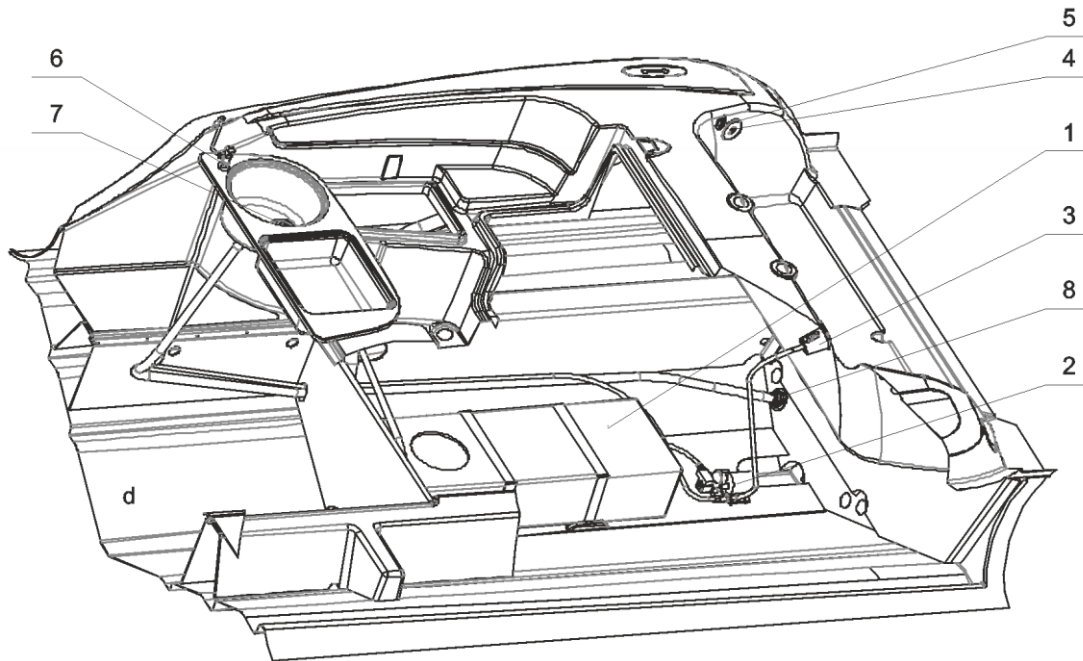

Fig. 38. Water supply system.
Water supply system (see fig. 38 on the previous page).
- To fill up wash basin with water, open a tap (fig. 38, pos. 6).